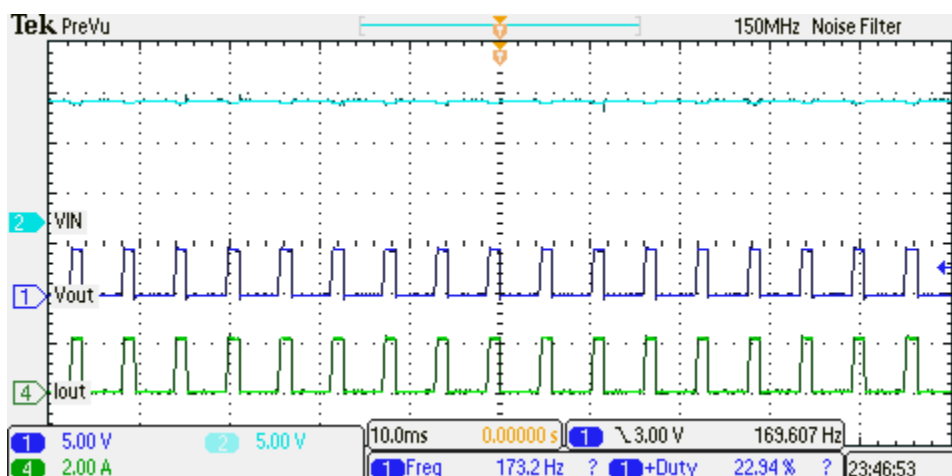

Figure 4. J7 = "ILIM-LO" Current Limit (2.1 A) Test Auto-Retry (CH2)
- Set the output load at  $1.0 \pm 0.5 \Omega$  on CH2 and then enable the load. Turn on the VIN2 power supply, verify that input/output current is limited as per the setting in Table 9 and the device is in auto-retry mode, as shown in Figure 4. The level of the current pulse should match with the load current limit (based on the respective jumper setting) as per Table 9.